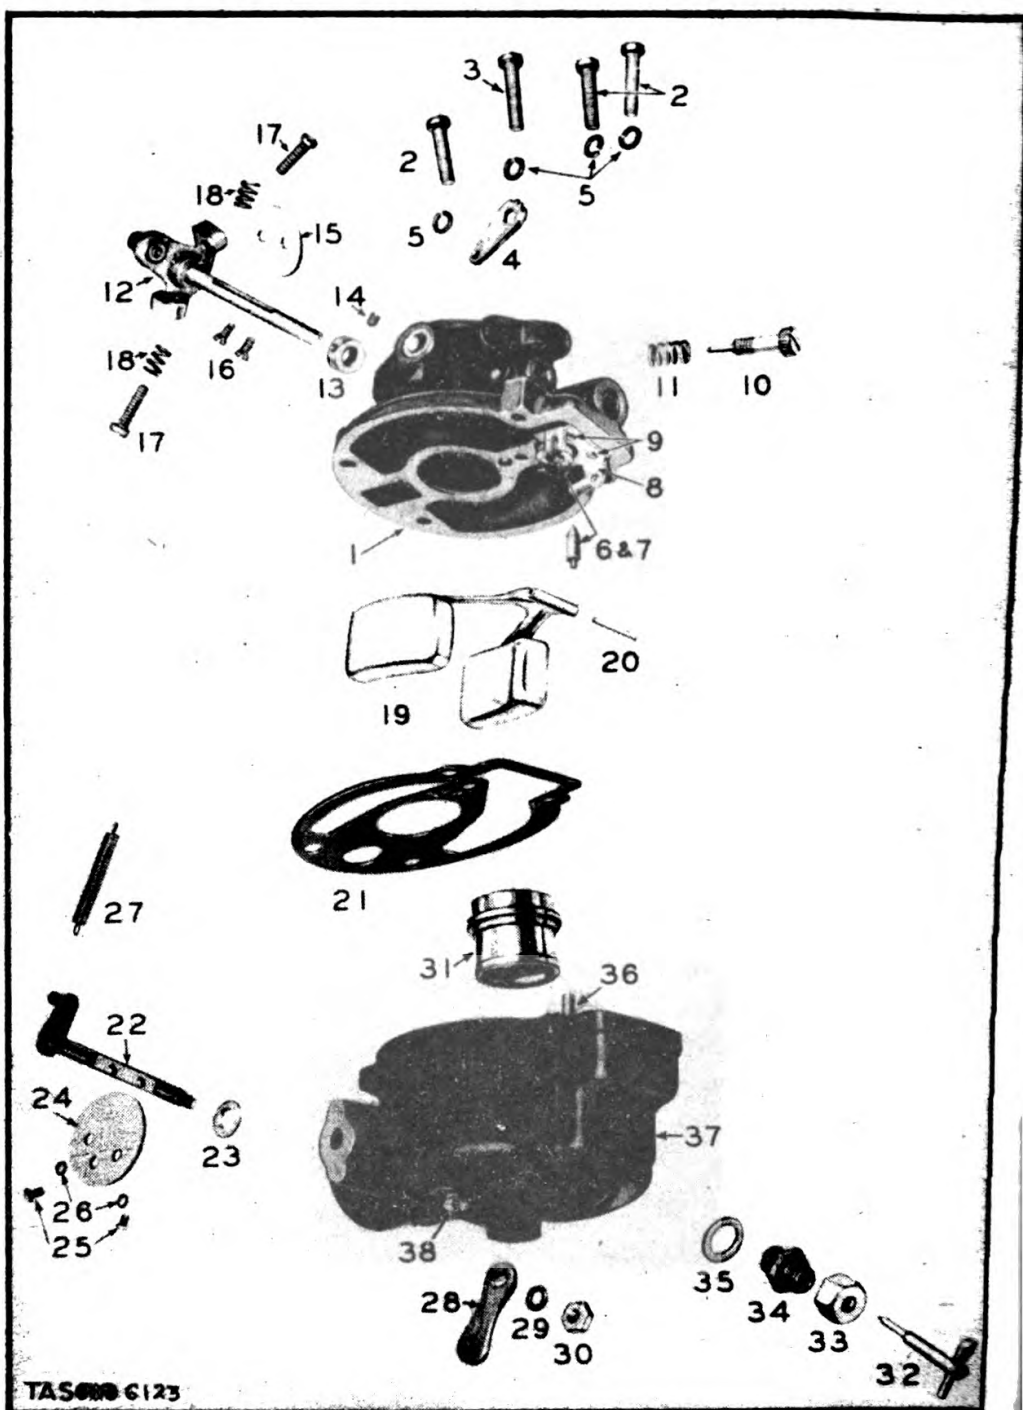

Fig. 123. Carburetor.
i. Carburetor. (See fig. 123.) (1) To remove.